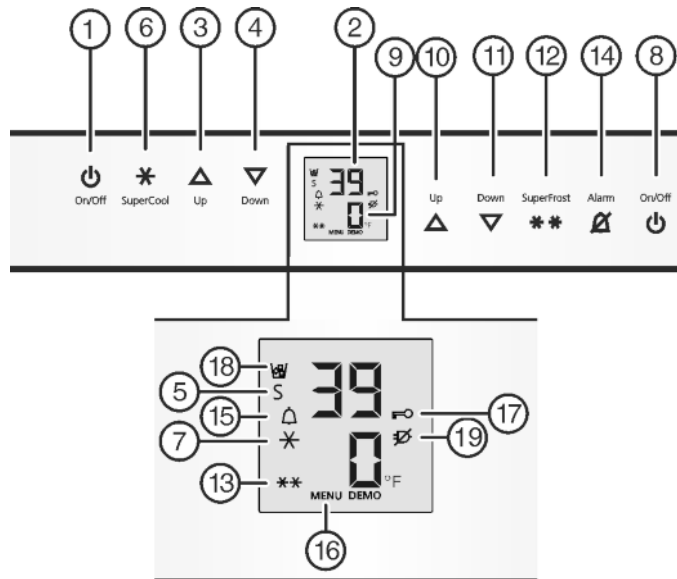

Fig. 3
- ▶ Press On/Off button, freezer compartment *Fig. 3 (8)*.
- ▶ Press Fridge compartment On/Off button *Fig. 3 (1)*.
- ▶ Activate setting mode: Press SuperFrost button *Fig. 3 (12)* for about 5 seconds.
- ▷ The Menu symbol *Fig. 3 (16)* lights up.
- ▶ Using Freezer compartment Up button *Fig. 3 (10)*/ Freezer compartment Down button *Fig. 3 (11)* select °.
- ▶ To confirm: Briefly press SuperFrost button *Fig. 3 (12)*.
- ▶ Using Freezer compartment Up button *Fig. 3 (10)*/ Freezer compartment Down button *Fig. 3 (11)* select °F or °C.
- ▶ To exit setting mode: Press Freezer compartment On/Off button *Fig. 3 (8)*.
- ▶ Activate setting mode: press and hold the SuperFrost button *Fig. 3 (12)* for approximately 5 s.
- ▶ Using the Freezer compartment Up button *Fig. 3 (10)* or Freezer compartment Down button *Fig. 3 (11)*, select **c**.
- ▶ Press the SuperFrost button *Fig. 3 (12)* briefly to confirm.
- ▶ To switch on the child-proof lock, press the SuperFrost button *Fig. 3 (12)* briefly.
- ▷ The Child safety symbol *Fig. 3 (17)* lights up. **c** flashes on the display.
- ▶ To switch off the child-proof lock, press the SuperFrost button *Fig. 3 (12)* briefly.
- ▷ The Child safety symbol *Fig. 3 (17)* goes out. **c** flashes on the display.
- ▶ Deactivate setting mode: press the Freezer compartment On/Off button *Fig. 3 (8)*.
▶ Press Alarm button *Fig. 3 (14)*.
At the same time, the Alarm symbol *Fig. 3 (15)* will flash.
The audible warning automatically ceases, the Alarm symbol *Fig. 3 (15)* goes out, and the temperature display stops flashing when the temperature is cold enough again.